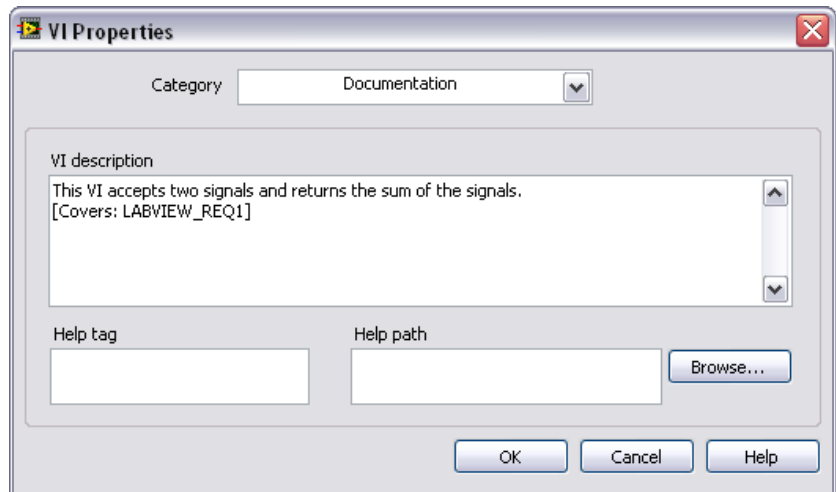

Figure 8-3. LabVIEW VI Properties Dialog Box
6. Press <Ctrl-V> to paste the text from the clipboard in the **VI description** control after the existing comments. LabVIEW adds [Covers: LABVIEW_REQ1] to the description, as shown in Figure 8-3.